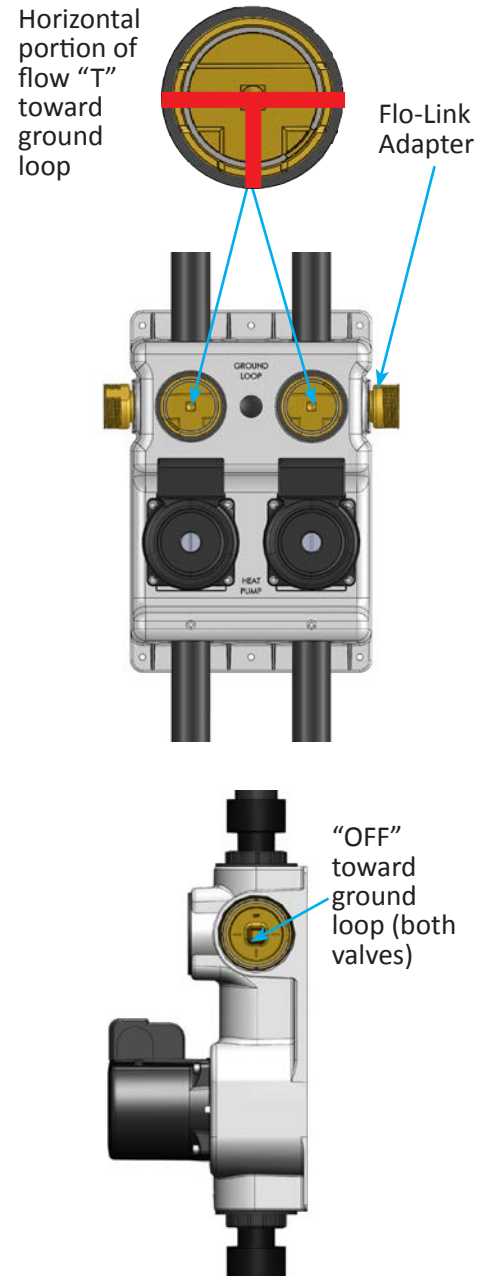

Figure 31: GPM (FPT) flow center (top) and Flo-Link Double O-ring flow center (below) valve positions for ground loop isolation
2. Rotate both valves to isolate the ground loop. (Figure 31).
8. For GPM series, thread on the Flo-Link adapter (Figures 31 & 32), which provides a union connection and easier installation/removal of the garden hose adapter. This step is not necessary for Flo-Link flow centers. Figure 33 shows the fittings included with the loop flushing kit. This kit provides all of the adapters needed when originally flushing the loop, as well as the fittings needed when replacing a pump.